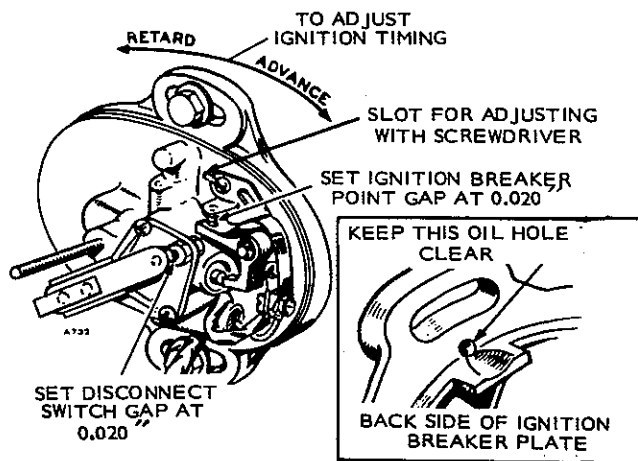

FIGURE 10-45. TIMING IGNITION WITH ENGINE STOPPED
Check the point gap with a .020 inch (0.51 mm) feeler gauge. Adjust gap by loosening the adjustment screw and moving the stationary contact. Tighten screw and check gap, Figure 10-45. Check points for cleanliness and pitting. Clean points with paper or gauze tape. If they are defective or excessively pitted, replace them.
3. If ignition timing isn't correct, align 5° ATC mark and timing pointer, then loosen breaker plate capscrews and rotate plate until light goes out. Clockwise rotation advances timing, counterclockwise rotation retards it, Figure 10-45.